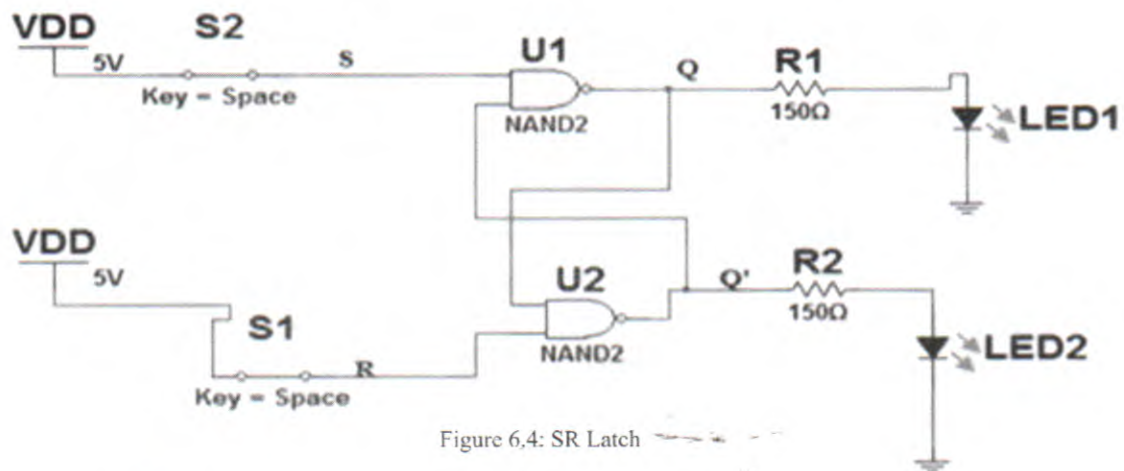

Figure 6.4: SR Latch
3. Draw the truth tables of Figures 6.4 to 6.7.
1. Connect the circuits shown in Figures 6.4 to 6.7.